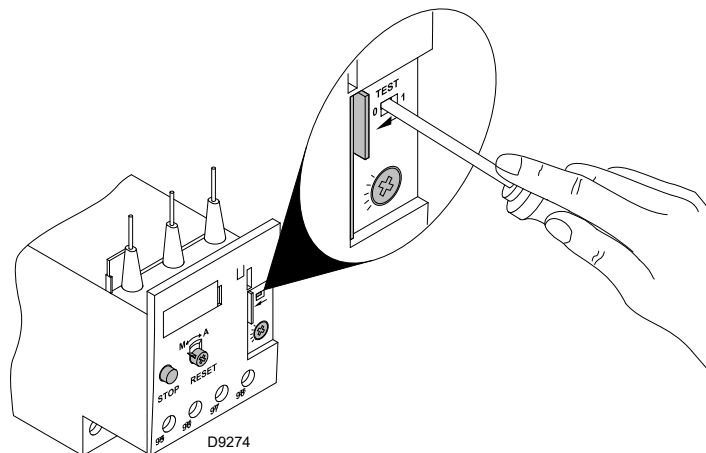

Fig. 36
- To test the overload relay, insert a screwdriver in the window "TEST" (Fig. 36) and move it in the sense of the arrow (towards right).